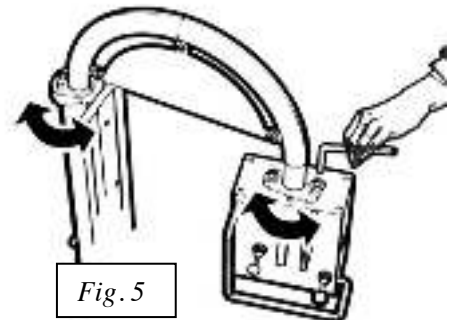

Fig. 5
- If necessary, the operator can adjust the control panel to his convenient position (ref. fig. 5).